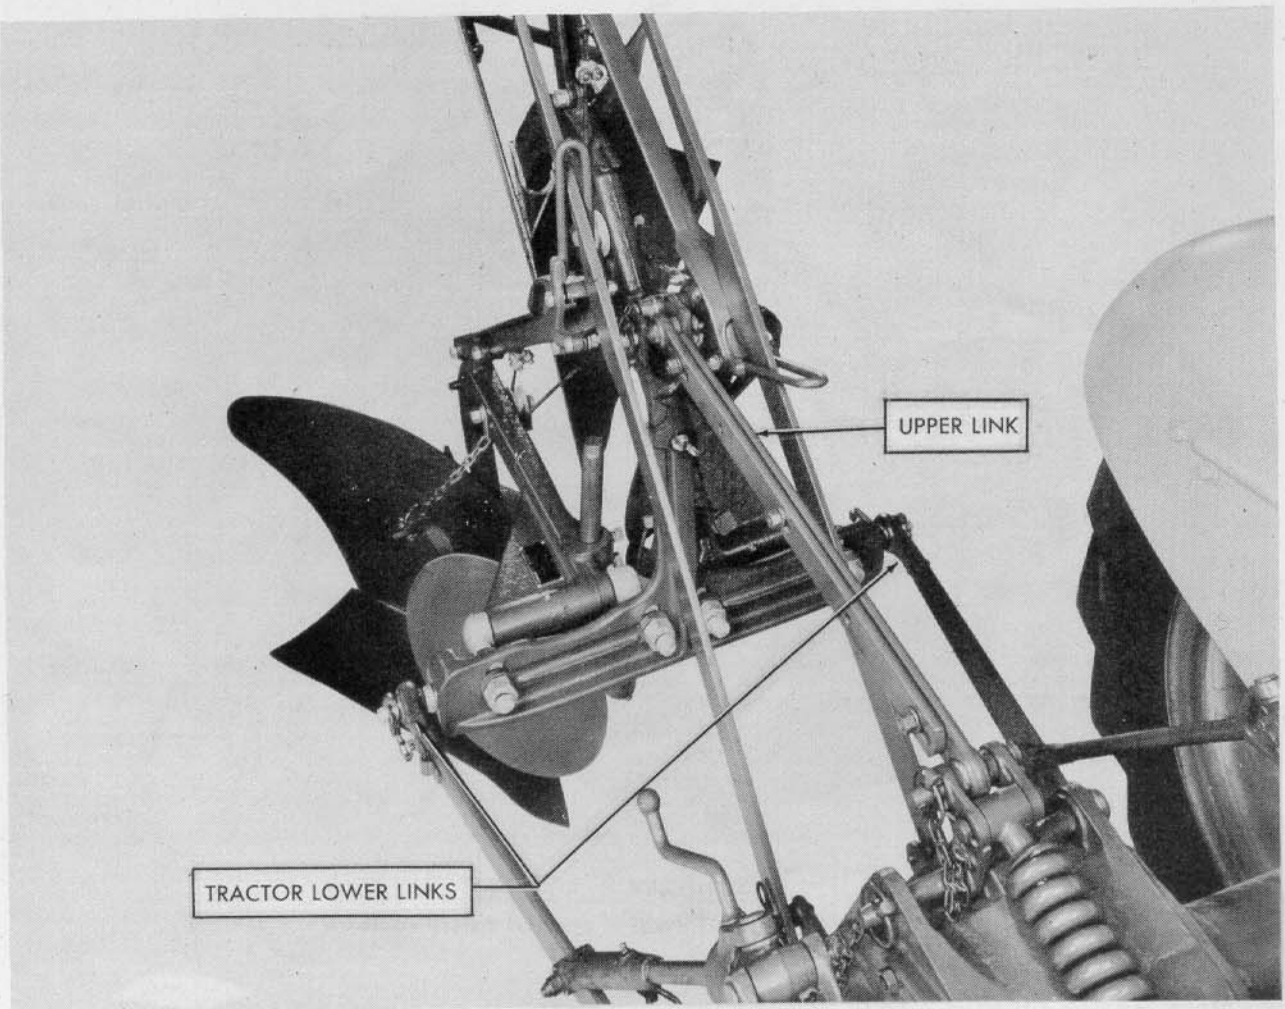

Figure 9
3. Back tractor into position and attach the left and right lower tractor links. See Figure 9. Secure with linch pins.